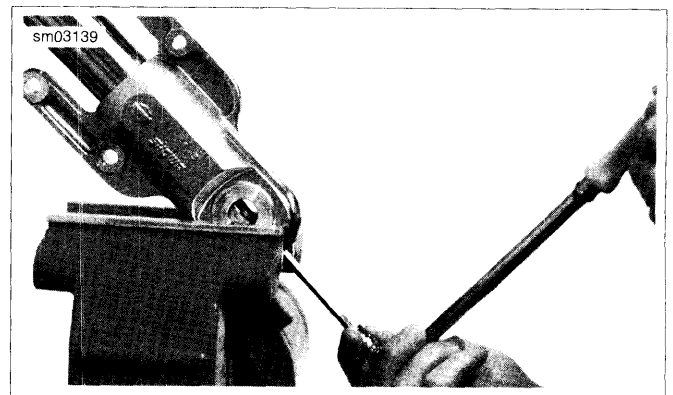

Figure 2-167. Install Fastener and Copper Washer
6. See Figure 2-167. Using a vise with soft jaws, clamp fork slider in vise. Install **new** fastener and copper washer to hold fork cartridge in place inside fork tube. Tighten to 132-216 **in-lbs** (14.9-24.4 Nm).